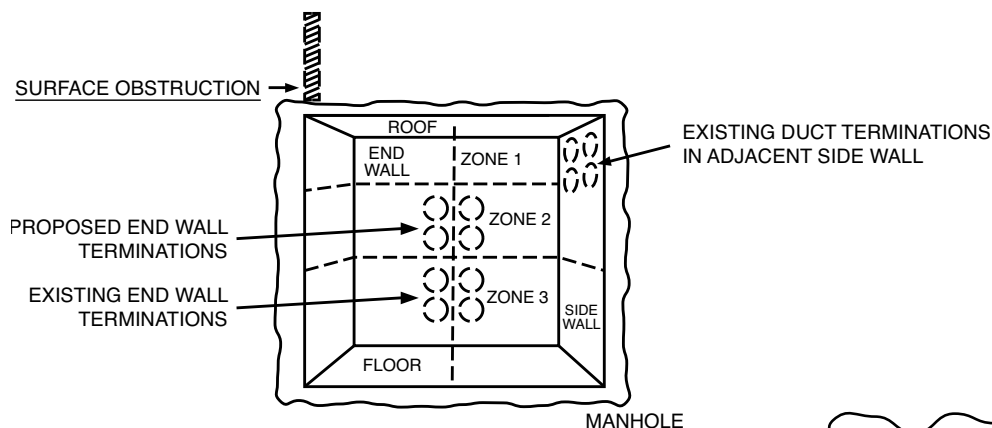

FIG. 1
- The standard 6' x 12' x 7' line manhole is adequate when the number of ducts terminating in a single wall does not exceed twelve (12). For terminating in excess of twelve (12) ducts but not more than sixteen (16), the manhole headroom should be increased to 9'.
- New duct terminations should be located so as not to interfere with existing ducts and cable. This situation is most critical when new ducts are to be located near existing ducts on the same or an immediately adjacent wall. Fig. 1 illustrates the installation of new ducts so cables installed in them will occupy Zone 2 and not interfere with cables installed in existing ducts placed in Zones 1 and 3.
- Two (2) or less terminations in the side wall of the line manhole do not require recessed extension boxes.